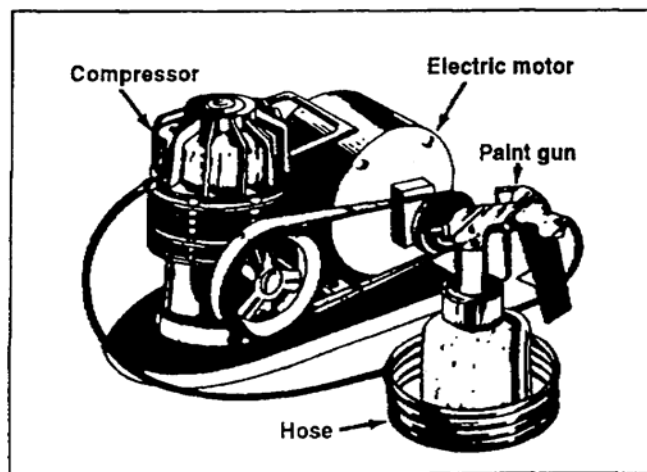

Figure 3-41. Low-pressure air compressor (electric motor)
(1) Low Pressure. The low-pressure air compressor shown in Figure 3-41, weighs approximately 50 pounds. The overall weight of this unit includes the air-pressure pump, the air-pressure tank, and the driving unit. Since the spray unit is designed to operate on pressures from 20 to 40 pounds per square inch, you should exercise caution against applying higher pressures. Because this gun operates at low pressures, it is not recommended for spraying quick-drying paints, lacquers, or enamels.